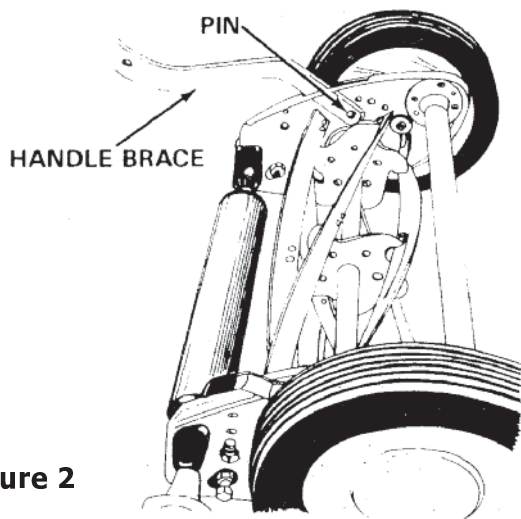

Figure 2
2. Insert the short end of the two handle braces through the slots and over the two pins in the end plates as shown in figure 2 below.